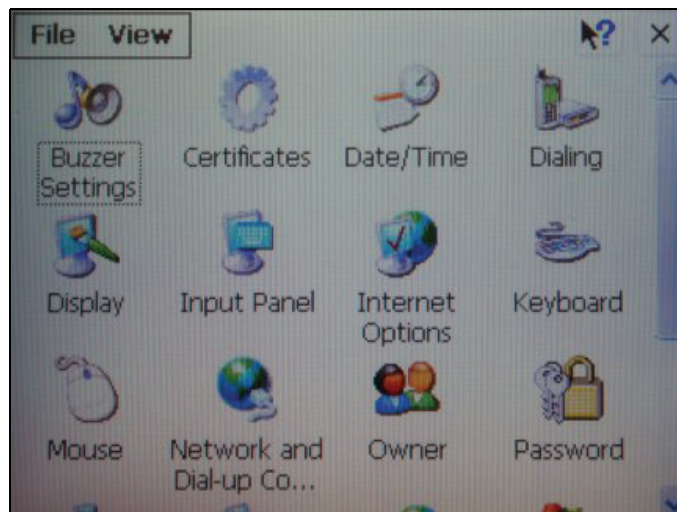

Figure 6-26
- Touch “Control Panel”. The Control Panel Window will appear, as shown in Figure 6-26.